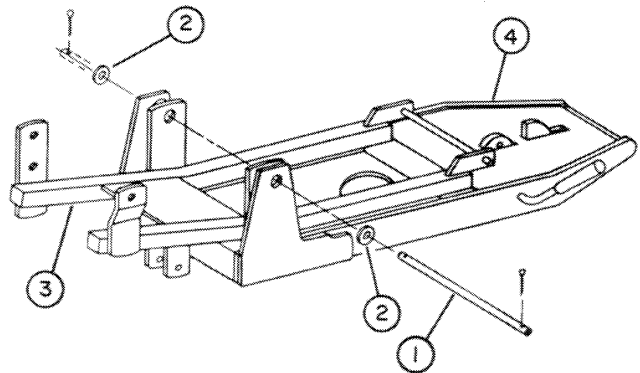
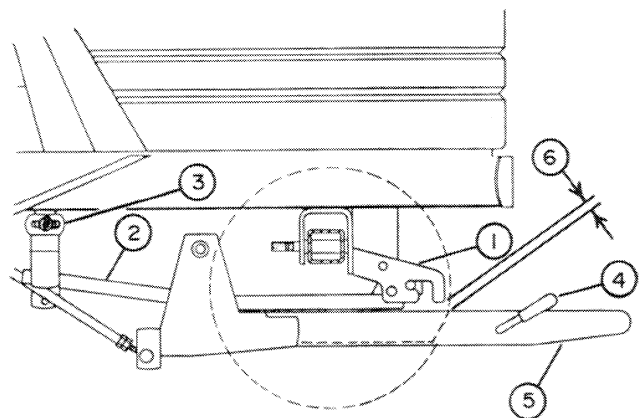
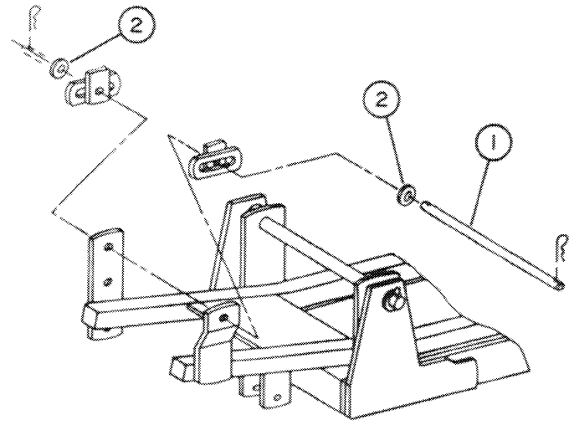

FIGURE 1
FIGURE 2
FIGURE 3
- b) Position the subframe in the male quick hitch between the hinge tabs. (fig.1 items 3 & 4)
- c) Place a  $5/32$ " x 1" cotter pin through the hole in one end of the  $5/8$ " x  $10\ 5/8$ " pin (fig.1, item 1). Place an  $11/16$ " flatwasher (item 2) over the pin, on the inside of the cotter pin. While aligning the holes in the subframe and quick hitch hinge tabs, insert the long pin. Place an  $11/16$ " flatwasher over the other end of the pin and secure with a  $5/32$ " x 1" cotter pin. If there is too much end play in the hinge, place one or two shim washers (on both sides) between the hinge tabs of the subframe rear and front sections before inserting the long pin.
- b) Lift the front of the subframe (fig.1, item 3) and insert the welded pins in the slots of tractor's fast hitch plates (fig.2, item 1) and slide to the rear.
- c) Lift the rear portion of the subframe (fig.2, item 2) up between the tractor weldments (item 3) and hold in place with a  $7/16$ " x  $11\ 1/2$ " pin (fig.3, item 1). Place a  $1/2$ " flatwasher on each end of pin and secure
- c) Lift the front section of the male hitch (fig.2, item 5) to the maximum and block in this position.
- NOTE: Check to make sure there is clearance between the tractor fast hitch plates and the male hitch in the fully raised position (fig.2, item 6).
- f) Place the rubber handle grip on the male quick hitch locking lever (fig.2,item 4).